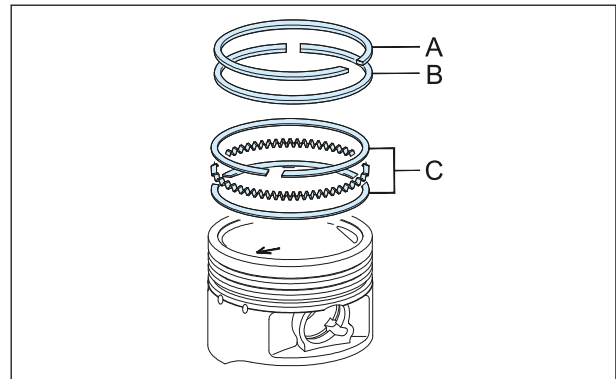

Fig. 3.98
- Remove the ring piston 1st (A), the ring piston 2nd (B) and ring piston oil (C) (Fig. 3.98)